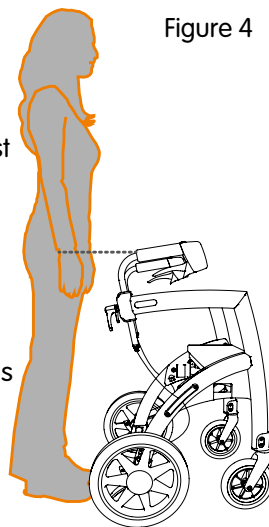

Figure 4
- To determine the correct height, stand between the handles of the Rollz Motion and let your arms hang loosely. The handles should be level with your wrists (Fig. 4).